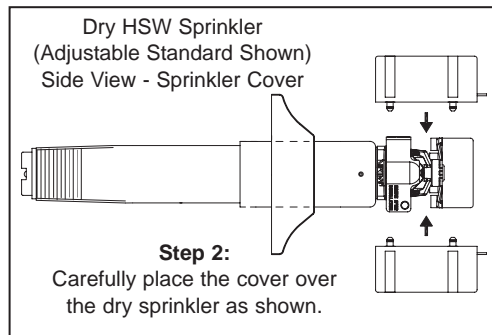

Figure 2
- b. Gently place both sides of the protective cover over the sprinkler frame protruding through the opening in the wall (Figure 2).